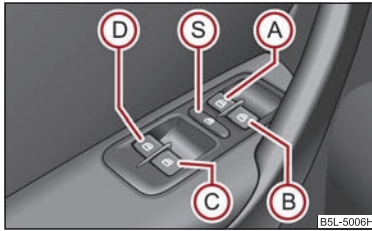

Fig. 32 Buttons on the driver's door
The buttons for the individual windows are located in the armrest of the driver's door ⇒ fig. 32, front passenger door and in the rear doors\* ⇒ page 48.
You can deactivate the buttons for power windows at rear doors by pressing the safety pushbutton (S) ⇒ fig. 32. The buttons for power windows at rear doors are activated again by pressing the safety pushbutton (S) again.
- It is recommended to deactivate the electrically operated power windows in the rear doors (safety pushbutton) (S) ⇒ fig. 32 when children are being transported on the rear seats.